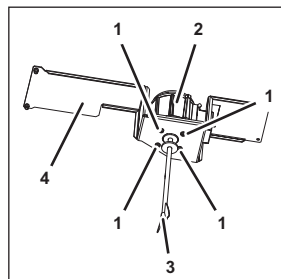

Figure 44
4. Remove the stirrer blade (Figure 44/3) from the stirrer motor (Figure 44/2).
5. Remove the fastening bolt (Figure 44/1) from the stirrer motor (Figure 44/2).
6. Attach the new stirrer motor (Figure 44/2) to the stirrer motor mount (Figure 44/3) using the fastening bolts (Figure 44/1).
7. Apply Loctite to the stirrer blade (Figure 44/3).
8. Attach the stirrer blade (Figure 44/3) to the new stirrer motor (Figure 44/2).
9. Position the new stirrer motor mount (Figure 44/3) within the unit.
10. Attach the stirrer motor mount (Figure 44/3) using the fastening bolts (Figure 44/1).